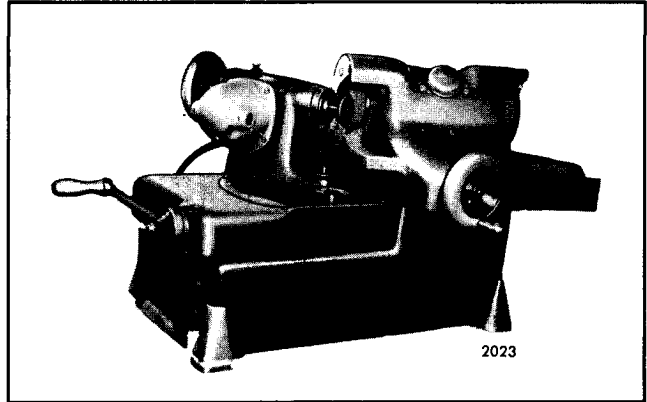
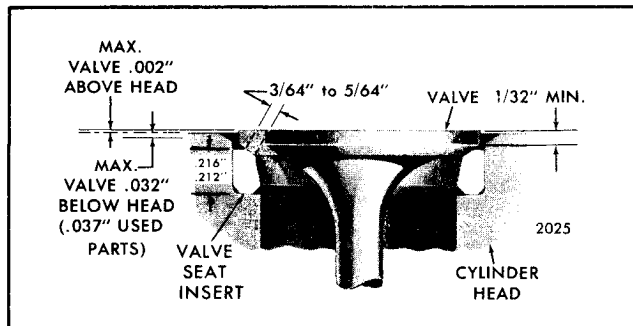

Fig. 11 - Refacing Exhaust Valve
Fig. 13 - Relationship Between Exhaust Valve, Insert and Cylinder Head (Two-Valve Head)
An exhaust valve which is to be reused may be refaced, if necessary (Fig. 11). To provide sufficient valve strength and spring tension, the edge of the valve at the valve head must not be less than 1/32" in thickness and must still be within the specifications shown in Figs. 13 and 14 after refacing.
3. Then, grind the top surface with a 15° wheel to narrow the width of the seat from 3/64" to 5/64" (Figs. 13 and 14). The 31° face of the insert may be adjusted relative to the center of the valve face with the 15° and 60° grinding wheels.
The maximum amount that the exhaust valve should protrude beyond the cylinder head (when the valve is in the closed position), and still maintain the proper piston-to-valve clearance (Figs. 13 and 14). Grinding will reduce the thickness of the valve seat insert and cause the valve to recede into the cylinder head. If, after several grinding operations, the valve recedes beyond the specified limits, replace the valve seat insert.
When installing exhaust valves, check to see that the valves are within the specifications (Figs. 13 and 14). Also, do not use "N" pistons with former four-valve cylinder head assemblies unless the valves are flush with the cylinder head. If the valves are not flush, it may be necessary to regrind the valve seats so that the valves will be flush with the bottom surface of the cylinder head.
9. Check the position of the exhaust valve (Figs. 13 and 14).